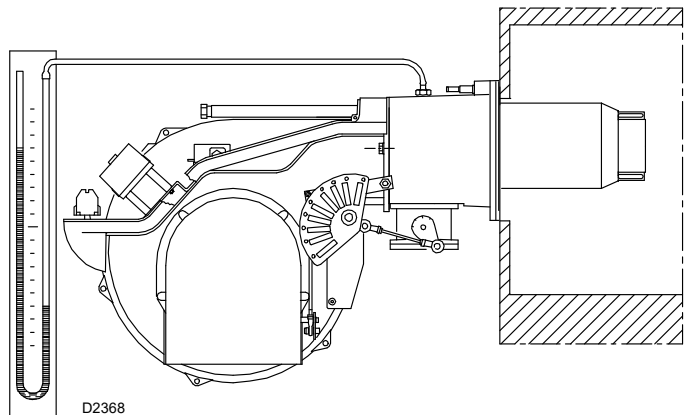

Fig. 32
- Purge the air from the gas line. Fit a U-type manometer (Fig. 32) to the gas pressure test point on the sleeve. The manometer readings are used to calculate the MAX. burner power using the diagram on page 22.